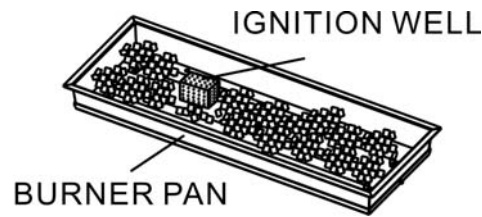

Figure 5
4. Pour ALL of the provided media (fire ice or lava rock) into the burner pan. Burner MUST be completely covered to ensure appliance function properly and safely. Remove any lava rocks or fire ice on top of the ignition well. See Figure 5.